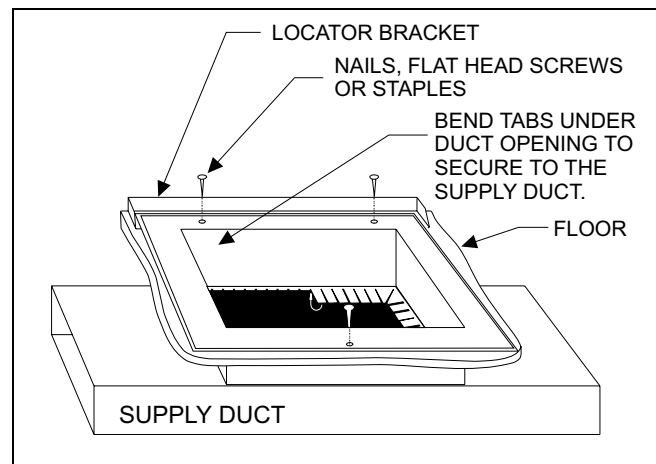

FIGURE 12 : Duct Connector Tab Attachment
3. Place locating bracket (supplied with the duct connector) to the rear of the floor area for the furnace. See Figure 12.